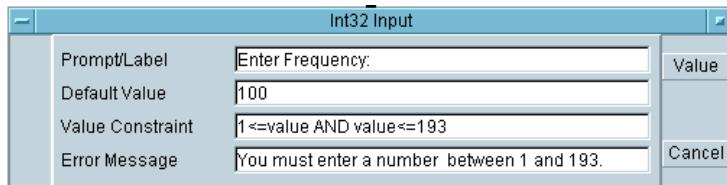

Figure 2-6. The Int32 Input Configuration Box
2. Change the Value Constraints to 1 on the low end and to 193 on the high end. Change the error message to reflect these new values, as shown in Figure 2-6. Finally, iconize the Int32 Input object.